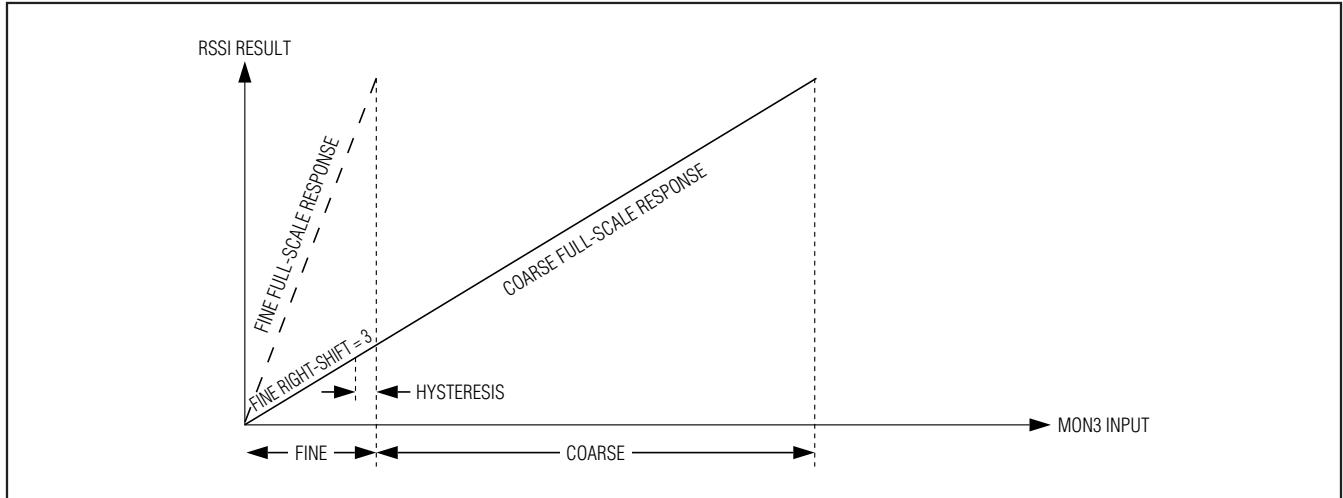

Figure 9. RSSI with Crossover Disabled
- Crossover Disabled:** The crossover disabled mode is intended for systems with a linear relationship between the MON3 input and desired ADC result. The ADC result transitions between the fine and coarse ranges with hysteresis (Figure 9). In crossover disabled mode, the thresholds between coarse and fine mode are a function of the number of right-shifts being used. With the use of right-shifting, the fine-mode full scale is programmed to (1/2ⁿ) of the coarse-mode full scale. The device now auto ranges to choose the range that gives the best resolution for the measurement. Table 4 shows the threshold values for each possible number of right-shifts.